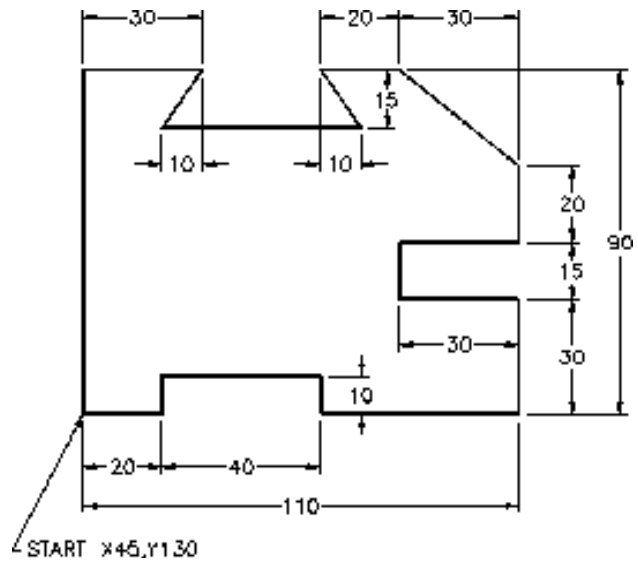

**Fig 1.2**
**Hints for Practice Fig 1.2**